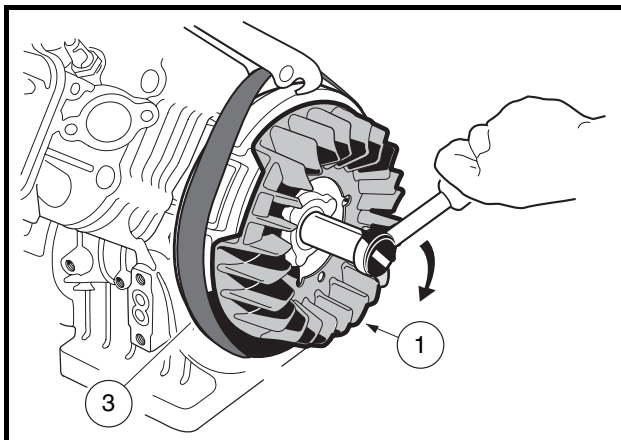

Figure 13-11 Fan and Flywheel Installation
2. Use a strap wrench (3) to keep the flywheel and fan assembly (1) from turning while tightening the flywheel nut to 63 ft-lb (85.4 N·m) (Figure 13-11, Page 13-8). See following CAUTION.